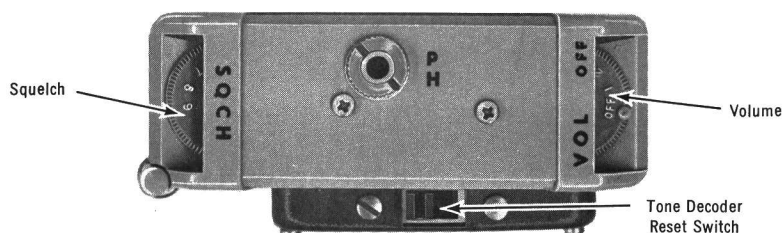

Figure 1 - Control Panel
To Change the Batteries (Fig. 1)
1. Press down on the bottom cover clip spring as shown in Fig. 1 and slide cover out.